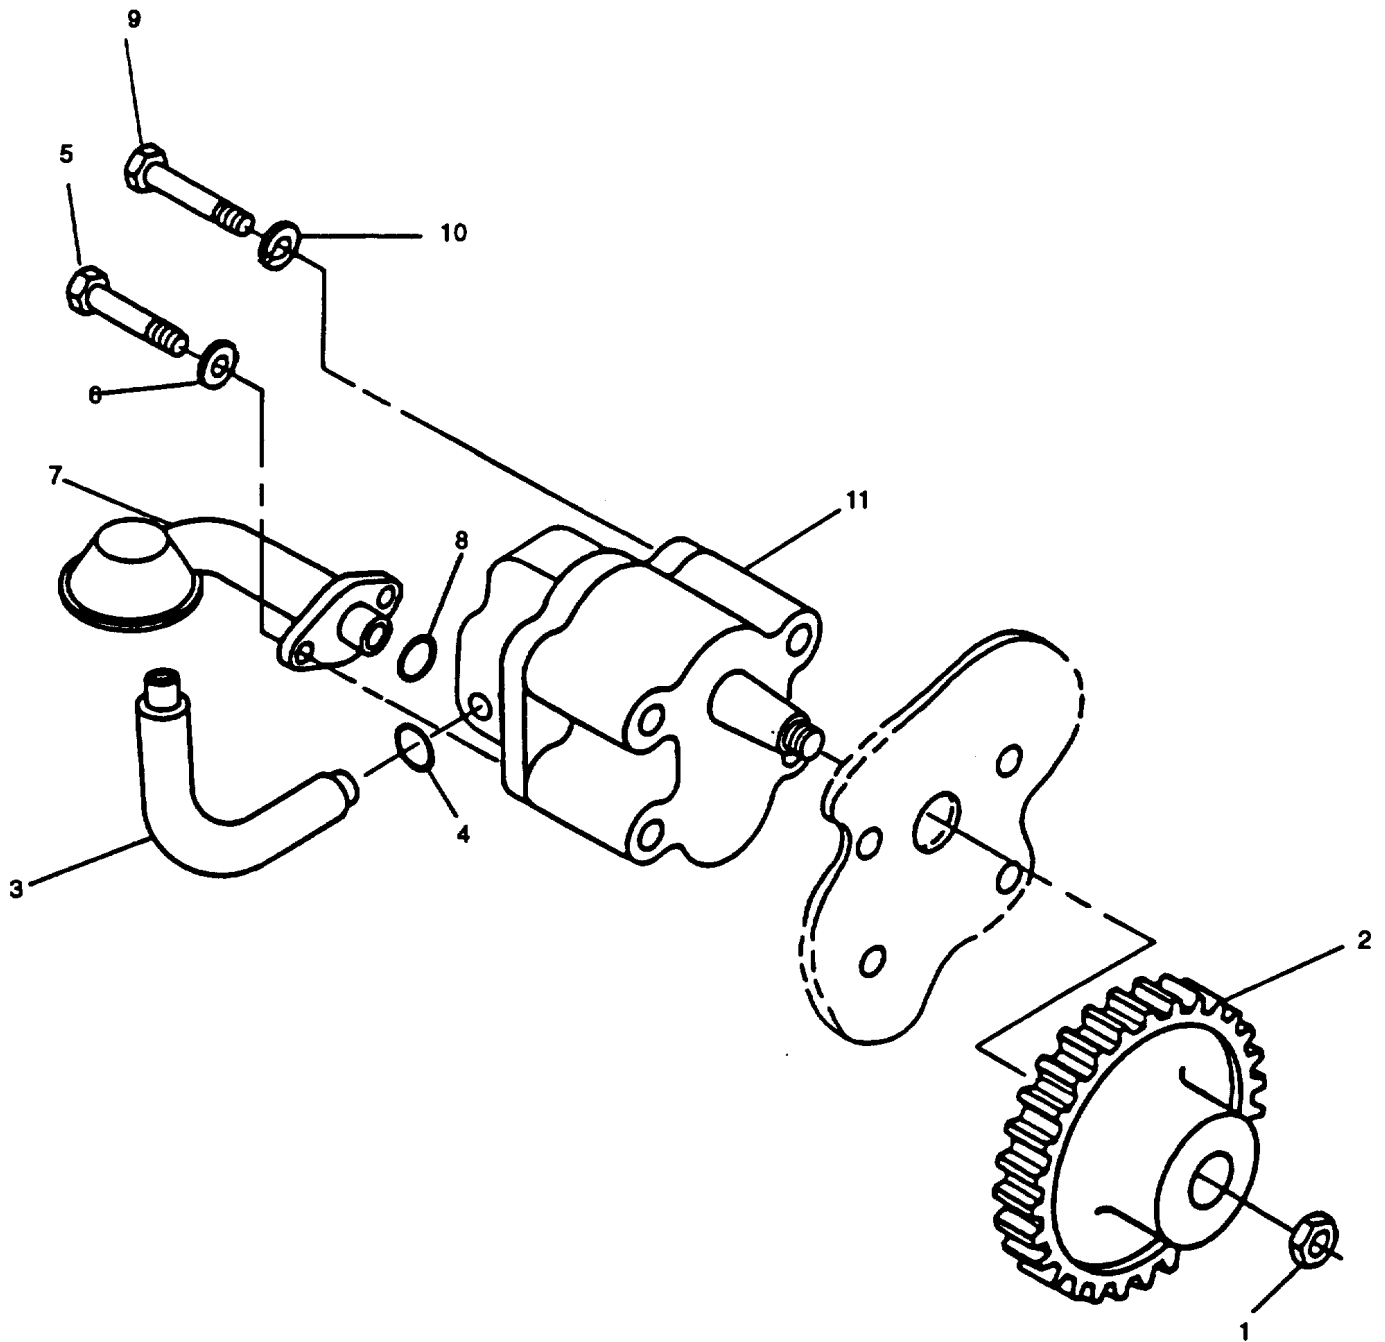

FIGURE 3-35. Oil Pump Assembly
- b. Remove nut (1, FIGURE 3-35) and pull gear (2) using a suitable puller. If a suitable puller is not available, loosen nut (1) several turns and apply force between front plate and gear (2) on two sides of gear with a small pry bar. Strike nut end of shaft while applying force to gear until gear is free of tapered shaft. Remove nut (1) and gear (2).